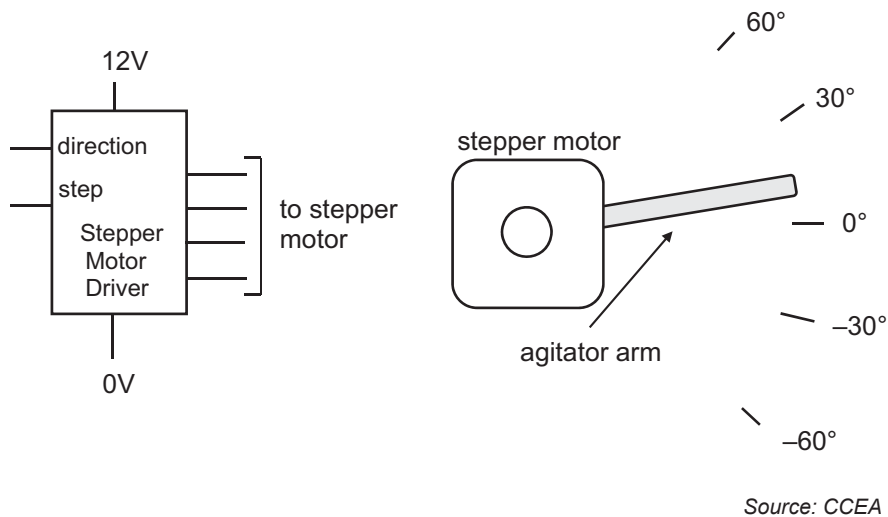

Fig. 12
- (f) A stepper motor with a mechanical arm that is used to agitate a fluid mixture in an industrial process is shown in **Fig. 12** along with the stepper motor driver. The arm is either stationary at 0° or oscillates backwards and forwards through $\pm 30^\circ$ or $\pm 60^\circ$ depending on which angle is selected by an operator. The stepper motor has a step angle of 1.5° .